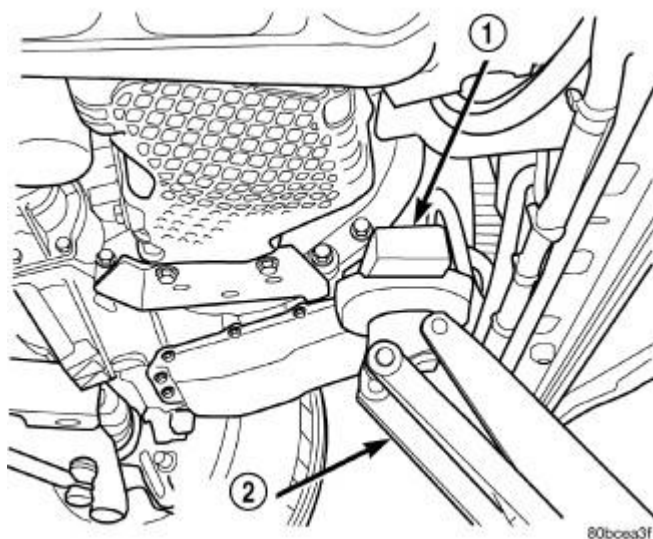

Fig. 189: Floor Jack Positioning
NOTE: The floor jack must be positioned as indicated, to prevent minimal upward lifting of the engine. See Fig. 189.
5. With the engine supported, remove the upper and lower torque strut attachment bolt(s) at shock tower bracket and suspension crossmember . See Fig. 189. Verify that the torque struts are free to move within the shock tower bracket and crossmember. Reinstall the torque strut bolt(s), but do not tighten.